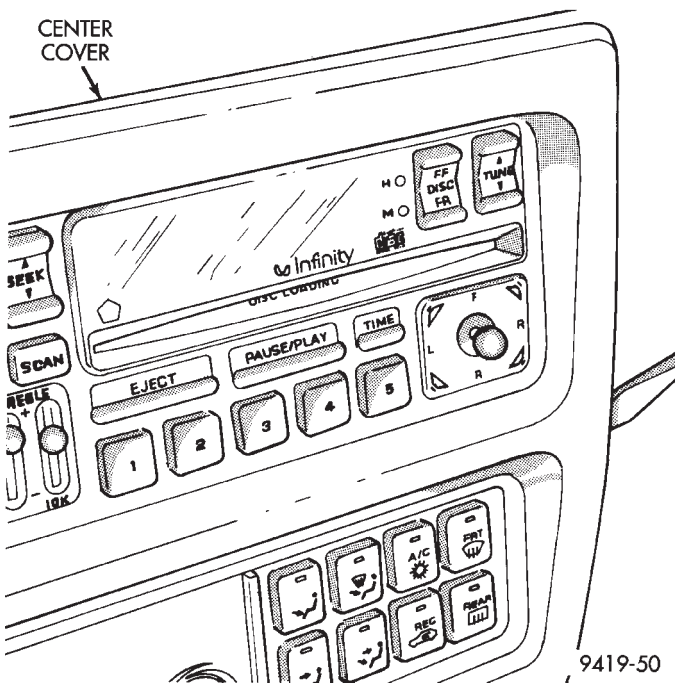

Fig. 12 Center Bezel
(12) Remove the lower center bezel (Fig. 12) from the lower knee bolster panel. Center bezel is removed from lower knee bolster panel, by carefully prying along edge of Bezel. Use care so as not to scratch lower knee bolster when removing bezel.